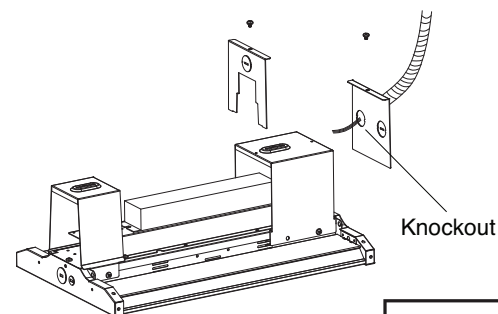

Fig. 3
3. Make wiring connections and install the cover plates onto the junction box bracket. **(Fig. 3)**